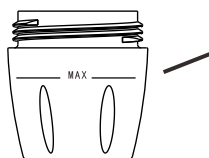

Figure 5
2. Fill the prophylaxis powder to the powder chamber, it is recommended to fill to the maximum indication mark on the chamber. (See Fig. 5)